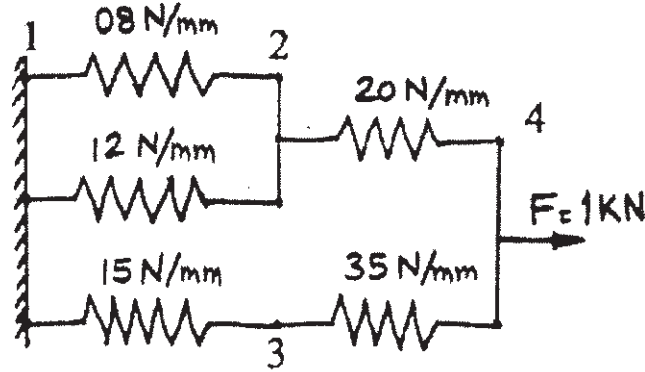

Fig. 2b
- b) A system of spring as shown in fig 2b. Using Finite element method, determine **[8]**